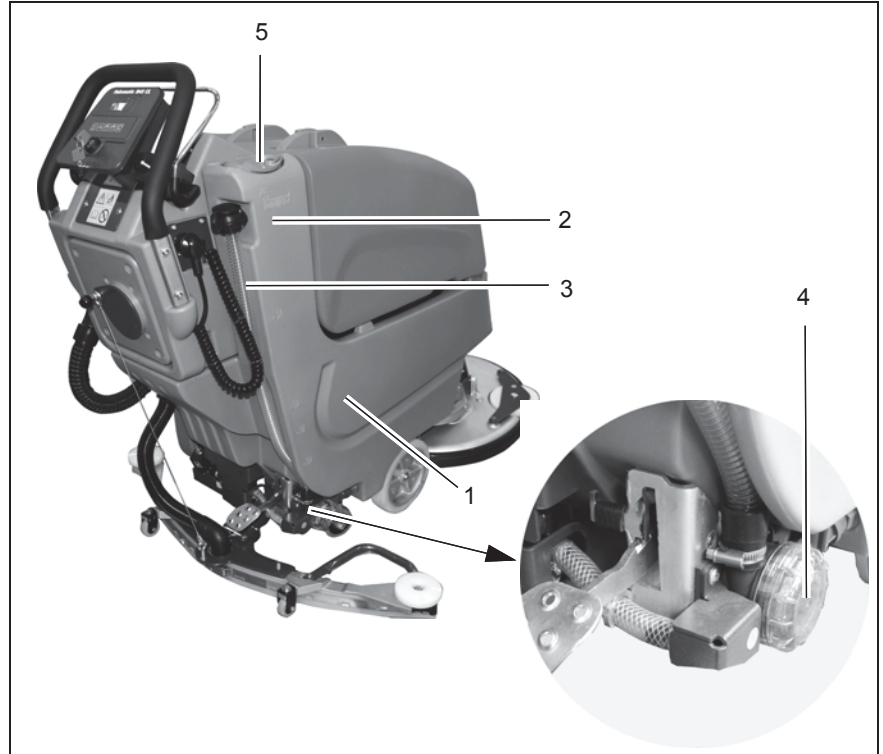

Fig.12
Fill the solution tank (Fig. 12/1) before starting work or as necessary. Park the vehicle on a level floor area.
Open the tank cap (Fig. 12/5) and fill the solution tank up to the maximum marking (1/1)(Fig. 12/2).
Park the machine so that the fill level hose (Fig. 12/3) is above a drain in the floor. Remove the fill level hose from the holder and remove the cover.
Check the solution filter (Fig. 12/4) weekly and clean or replace it as necessary.
1. Empty the solution tank (Fig. 12/1), see paragraph 5.5.2.